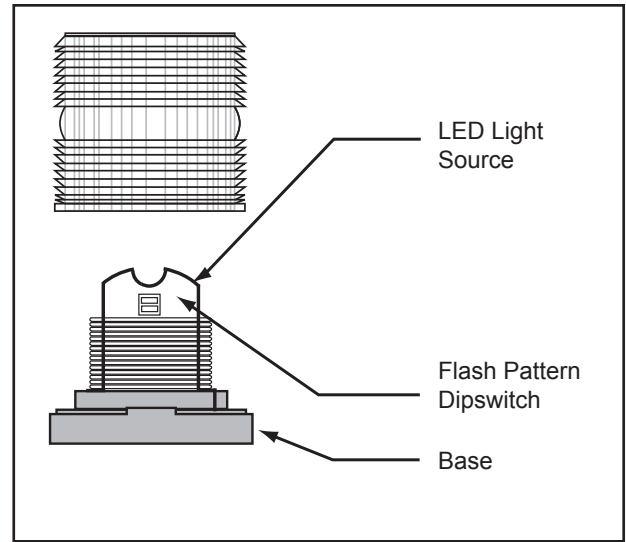
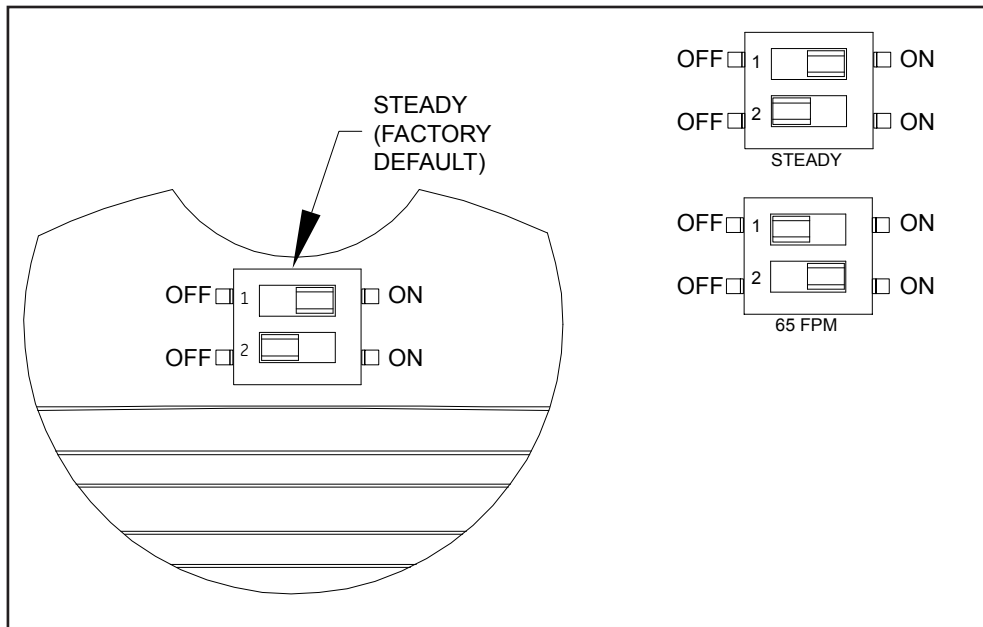

Figure 3. Dipswitch Location
Figure 4. Flash Pattern Dipswitch Settings
2. **Setting the Flash Pattern:** The 48XBRM Series Visual Indicator is a dual-mode device supplied with a default setting of steady-on. If flashing (65 fpm) mode is desired, set dipswitch as shown in Figure 4. Refer to Figure 3 for dipswitch location.
2. **Setting the Flash Pattern:** The 48XBRM Series Visual Indicator is supplied with a default setting of steady-on. If flashing (65 fpm) is desired, set dipswitch as shown in Figure 4.